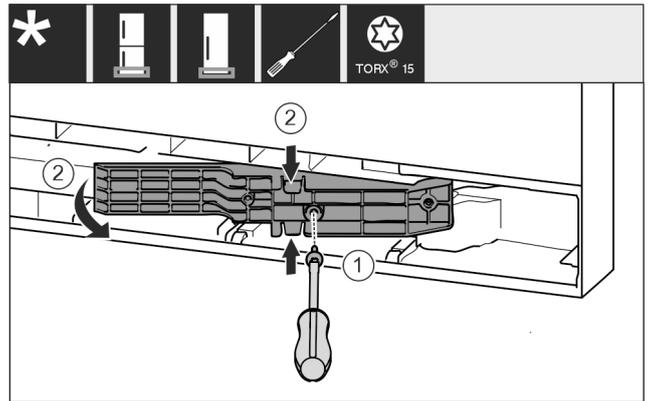

Fig. 8 *
- ▶ Use screwdriver T15 to loosen the screws. *Fig. 8 (1)**
- ▶ Pull the adapter out. *Fig. 8 (2)**